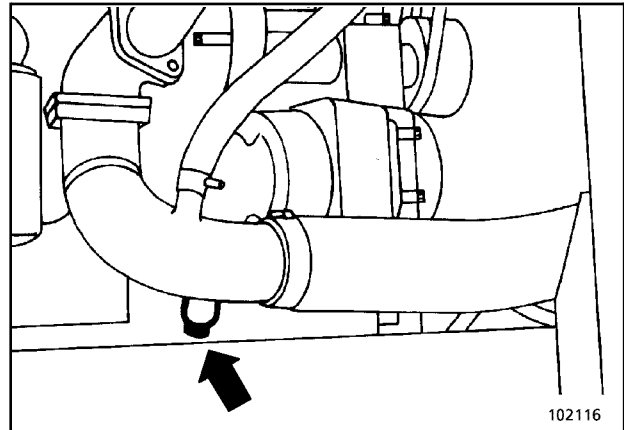

Fig. 3
- Unscrew plug (arrow, Fig. 3) and drain off cooling liquid completely.